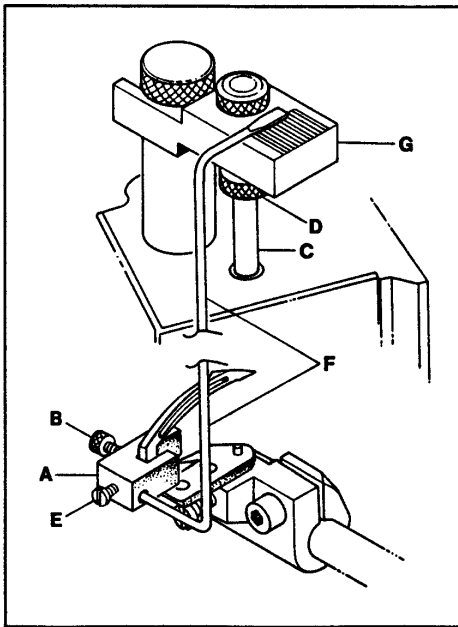
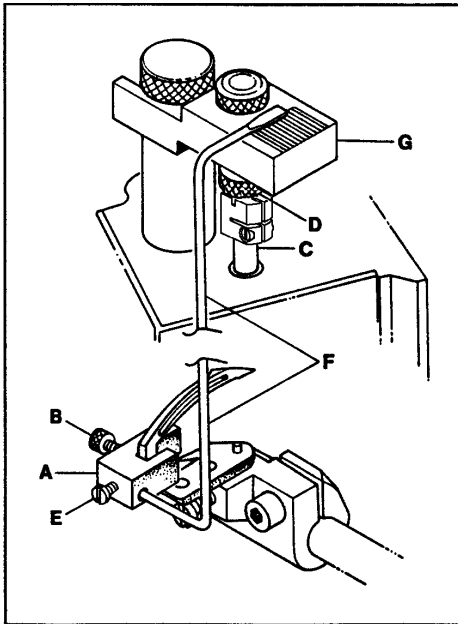
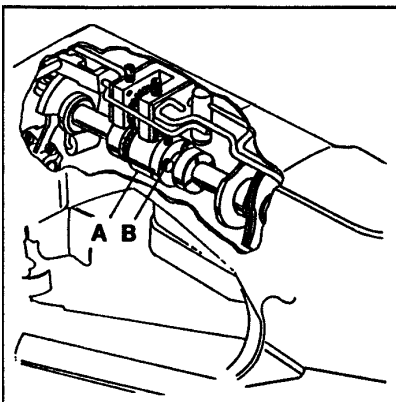

FIG. 9
FIG. 9A
FIG. 10
Attach the looper clamp and height gauge (A, Fig. 9) to the heel of the looper by tightening screw (B). Turn the handwheel slowly in a clockwise direction until needle bar (C) touches stop screw (D). Loosen screw (E) and set synchronizing gauge rod (F) so the flat end is on one of the lines in the center of the block (G). Tighten screw (E).
Turn the handwheel in the opposite direction until the needle bar (C, Fig. 9) or gauge block (Fig. 9A) touches stop screw (D, Fig. 9). Synchronizing rod (F) should come to the same line on block (G). The difference must not exceed one line.
If the setting cannot be achieved, main shaft coupling (A, Fig. 10) must be repositioned. Remove the crank chamber cover and gasket. Loosen the three coupling screws (B). If synchronizing rod (F, Fig. 9) moves more to the right while the handwheel is rotated in a clockwise direction, the looper is too fast and the main shaft should be retarded. If the rod moves more to the right when the handwheel is rotated in a counterclockwise direction the looper is too slow and the mainshaft should be advanced. Tighten screws (B, Fig. 10).